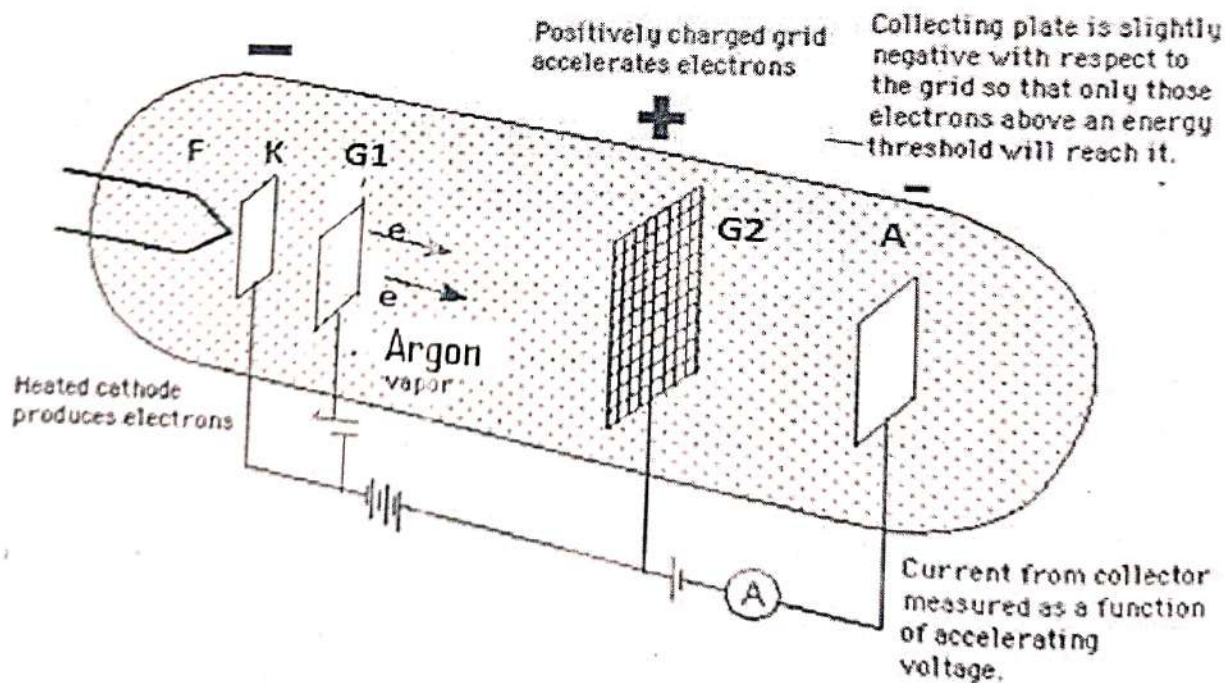

Figure 2. Franck Hertz Experiment
1. Graph with output current on Y-axis and accelerating voltage shows series of dips in current at approximately 12.1 volt (say) increments (fig 2).